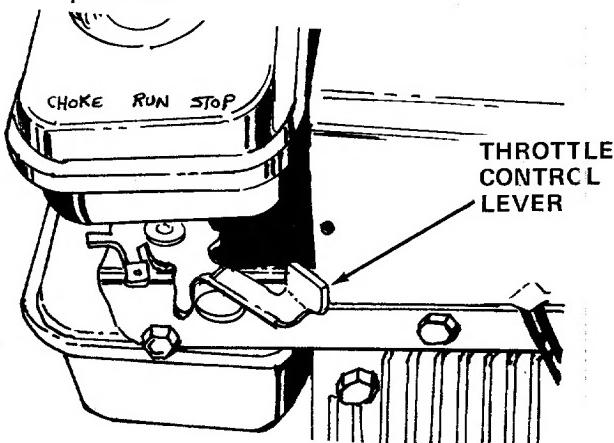

FIGURE 10
1. Place throttle control lever (on engine) in CHKE position, towards the front of splitter. See figure 10.